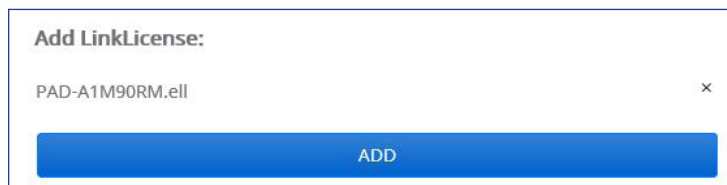

Figure 61. Add LinkLicense Button
3. Click **Open**. The window closes and the LinkLicense dialog box reopens showing the LinkLicense file in the file name field (see figure 61).